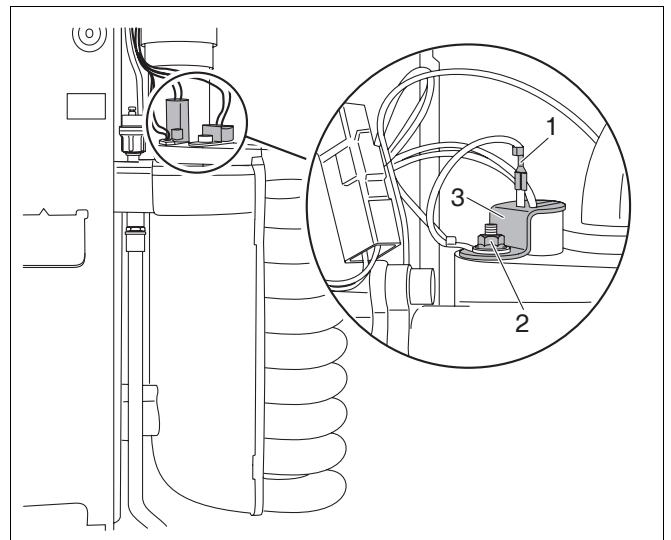

Fig. 74 Replacing the hot surface ingitor
- Remove the earth (ground) lead from the hot surface ingitor (fig. 74, item 1).
- Loosen nut on clamp used to secure earth (ground) lead (fig. 74, item 2).
- Detach retaining plate of hot surface ingitor (fig. 74, item 3) and remove hot surface ingitor.